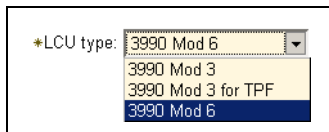

Figure 11-17 Express configuration: Available LCU types
- LCU type (CKD base control unit type for the LCUs; see Figure 11-17 for available types)